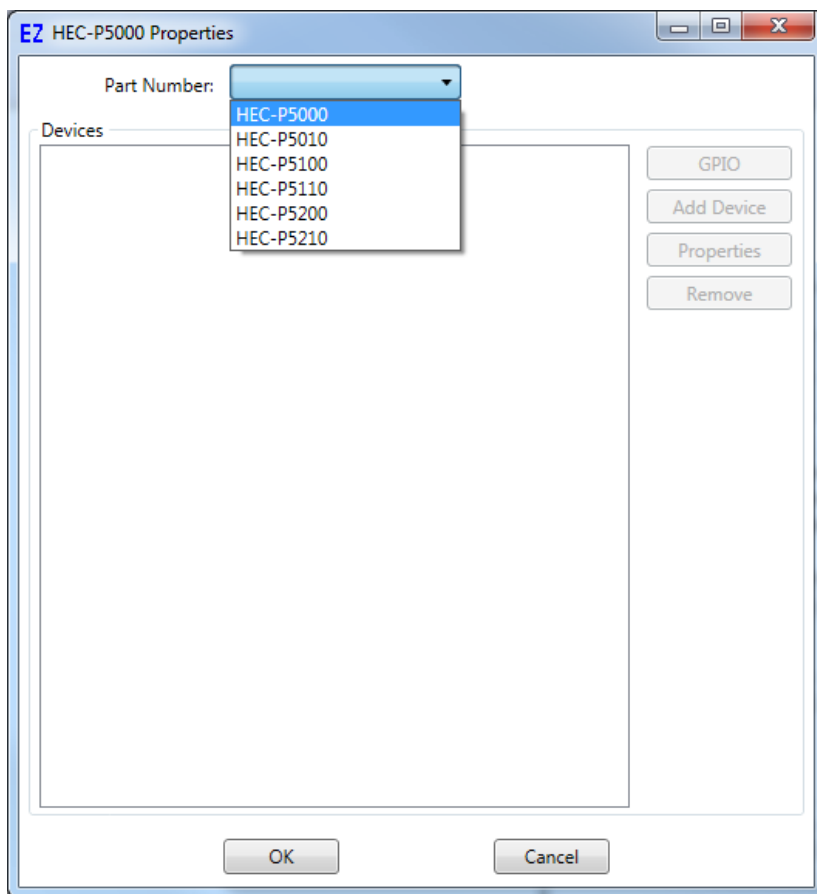

Figure 1.2 - HEC-P5000 Properties Window
3. Using the Drop-down Part Number select box, select the model of the HEC-P5XXX. Refer to Figure 1.2. With the model selected, the Devices pane will update with the currently selected features for the HEC-P5XXX. The **ADD DEVICE** button is used to install and configure additional features (from those shown above) such as Ports, Real Time Clock, etc. For this example, we will not add additional features at this time. These features may be installed and configured by re-visiting this window.